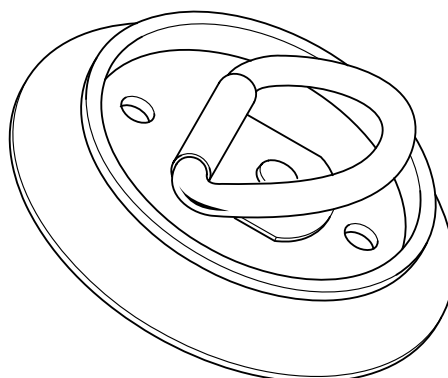

Figure 11 Tie-down Fitting
29. The removal of Tie-down Fittings are as follows (Figure 11):